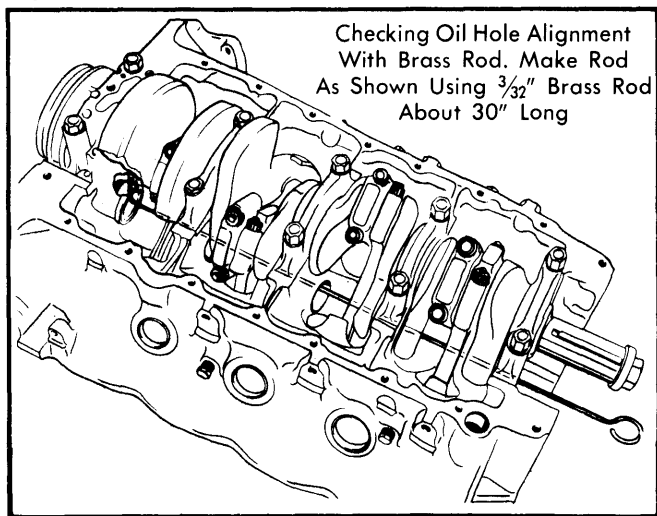

Fig. 12 Checking Oil Holes
2) Align oil hole in bearings with center of oil slot in each bore. Mark bottom of bearing to act as a guide. Use a piece of $\frac{3}{32}$ " brass rod with a 90°-bend at one end to check oil hole opening. Wire must enter hole. Fig. 12.